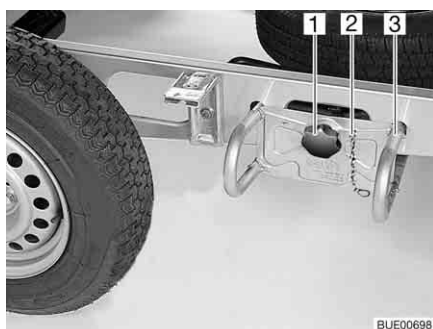

Fig. 213 Spare wheel support
- Unhook the safety chain (Fig. 213,2).
- Loosen and unscrew the star handle (Fig. 213,1).
- Pull out the spare wheel support (Fig. 213,3) about 10 cm and place it on the ground.